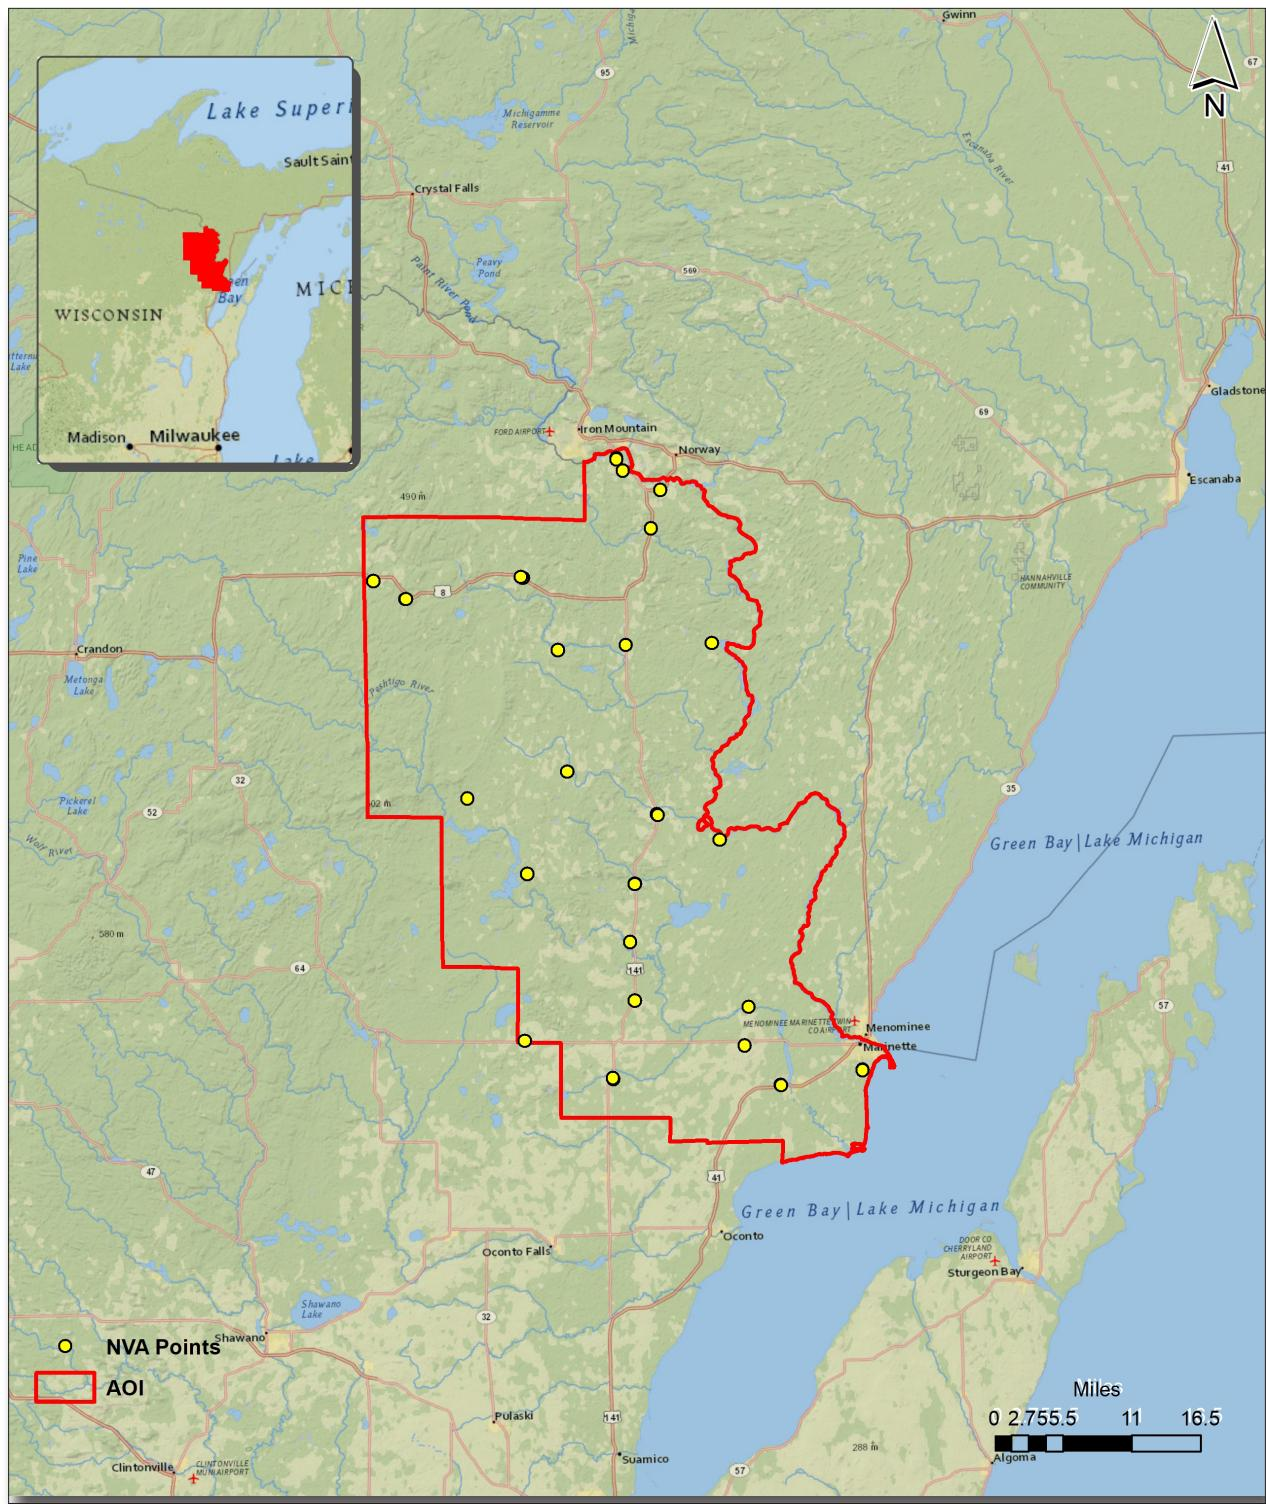

Figure 7. QC Checkpoint Locations - NVA
1. The required NVA is: 19.6 cm at a 95% confidence level, derived according to NSSDA, i.e., based on RMSE of 10 cm in the “bare earth” and “urban” land cover classes. This is a required accuracy. The NVA was tested with 159 checkpoints located in bare earth and urban (non-vegetated) areas. See Figure 7.